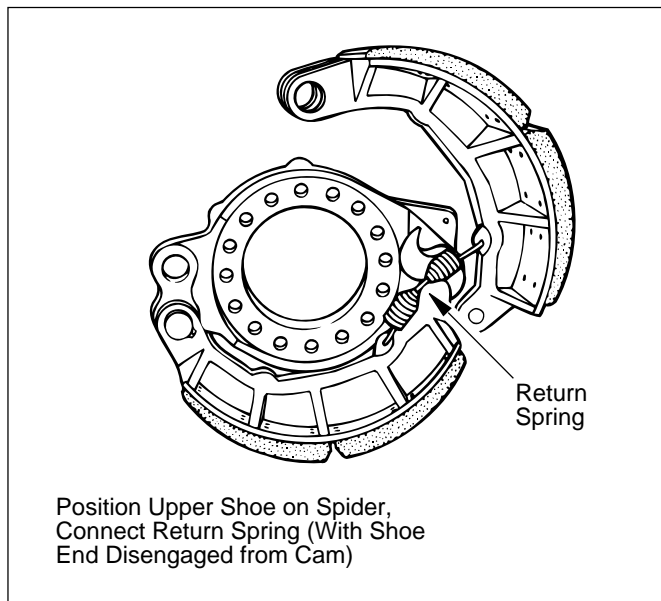

Figure 79. Upper Shoe Positioning
9. Position upper shoe for installation on spider (partially installed with shoe end disengaged from cam), then connect return spring to upper shoe. Refer to Figure 79.